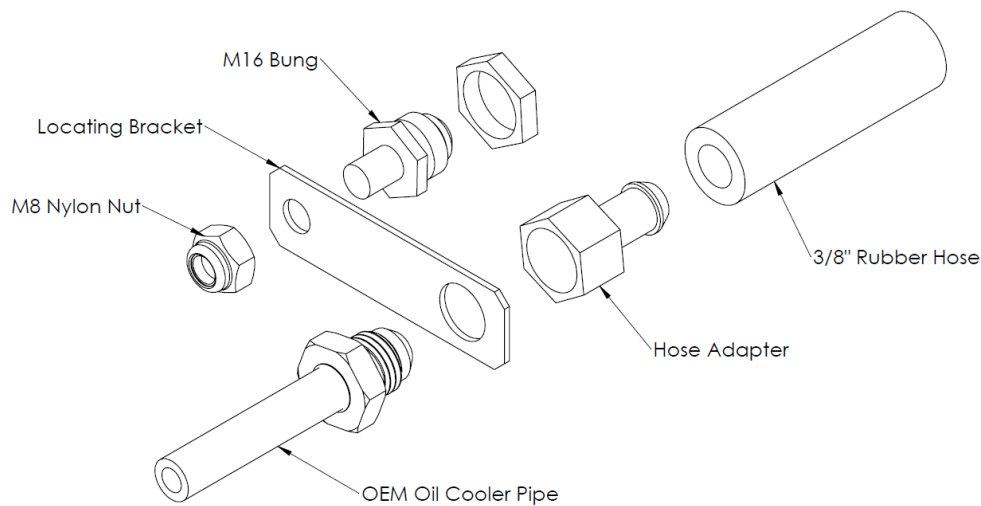

Figure 6: Bypassing Oil Cooler Diagram
2. Screw the supplied mounting bung in and screw the female hose end adapter to the transmission pipe, spacing the fittings out with the transmission pipe bracket. Position these brackets on exposed end of M8 thread side of bung (figure 6).